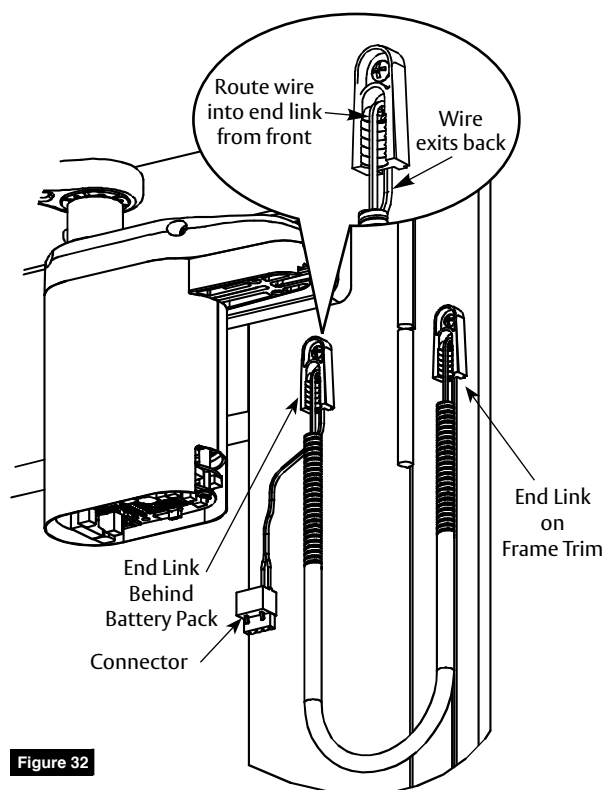

Figure 32
2. Route wires through end links. (Figure 32)
3. Mount one end link in area behind or next to battery pack. (Figure 32)
4. Mount other end link on door trim molding or next to door frame. (Figure 32)